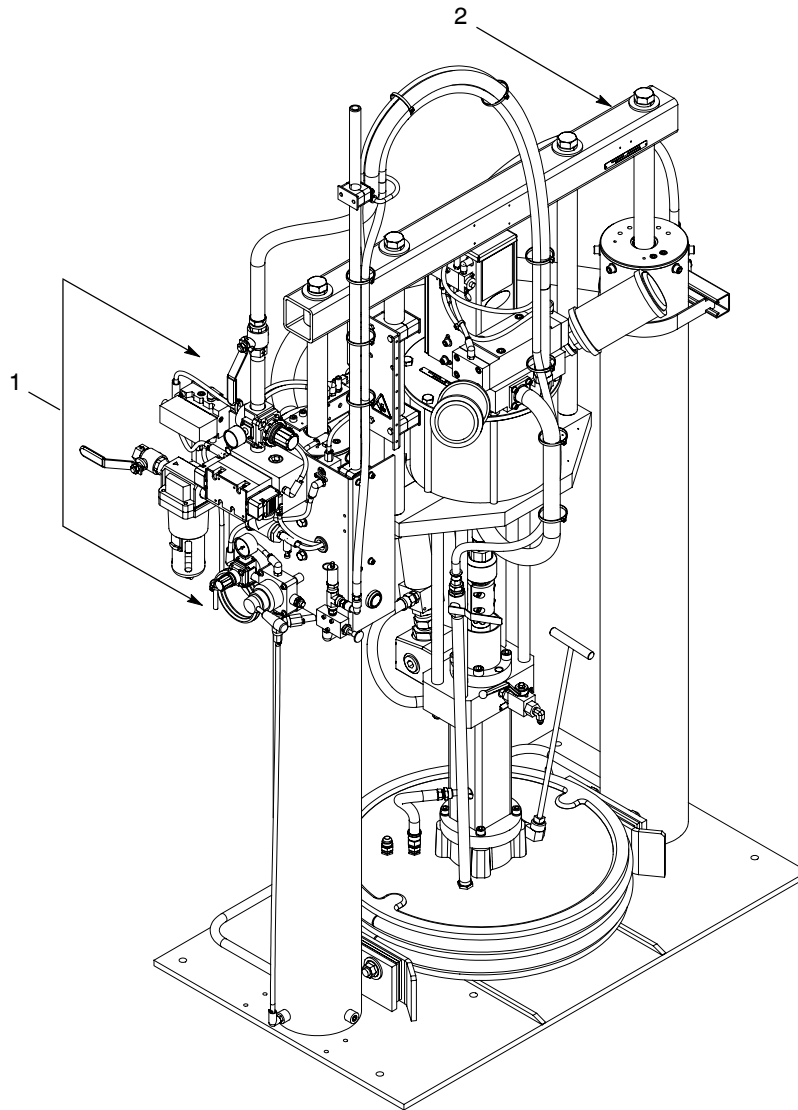

Figure 1 Typical Control Module
See Figure 1. The Control Module (1) provides the pneumatic operating functions for Rhino SD2/XD2 bulk unloaders (2). It mounts to the side of small- and large-frame Rhino SD2/XD2 bulk unloaders.